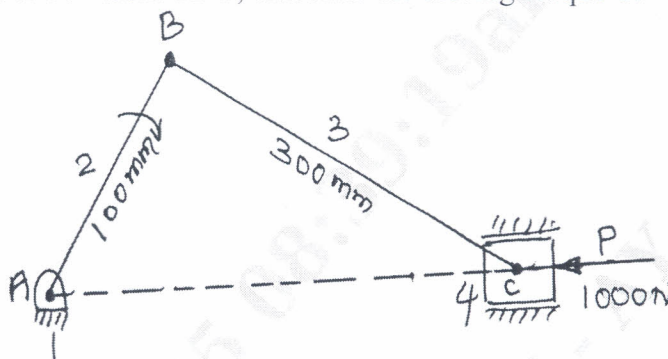

Fig. Q3 (a)
- 3 a. A slider crank mechanism is shown in Fig. Q3 (a). The force applied to the piston is 1000 N. When the crank is at 60° from TDC, calculate the driving torque T. (10 Marks)